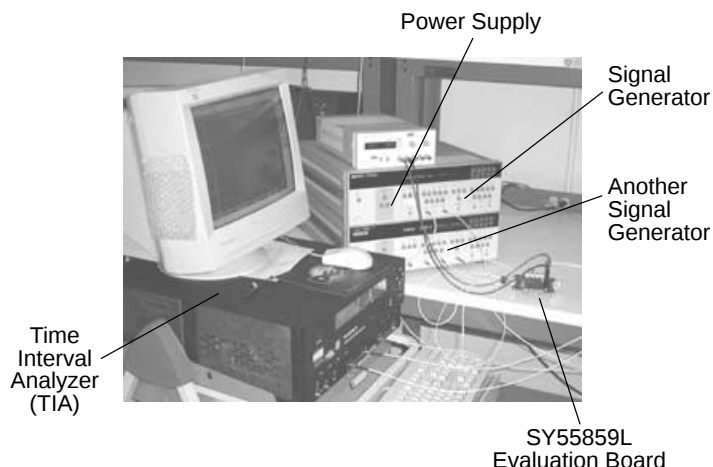
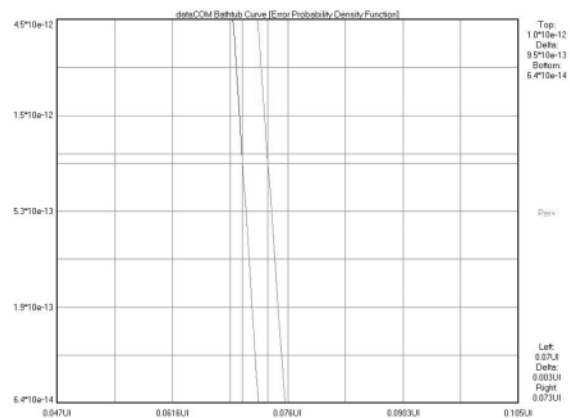

Figure 5. Assessing Crosstalk
Figure 6. TIA Crosstalk Bathtub Curves
This section describes how to measure crosstalk using the SY55859L evaluation board. An example bench setup is shown in Figure 5. Of the various methods to obtain crosstalk, this document describes use of a Wavecrest DTS-2079 TIA. Other instruments, will, of course, require slightly different procedures, though the major steps are common. Following these instructions, you will be able to measure crosstalk, and obtain results like Figure 6.
Using one pair of length matched SMA cables, connect the differential output of the signal generator to J1, labeled “DA0,” and J5, labeled “/DA0.” In the setup shown in Figure 5, an Agilent 8133A signal source generates a 2³²–1 PRBS pattern.
8. *Use Data Source:* Set the data source to generate a K28.5 pattern, which is the 20-bit sequence “0011 1110 1011 0000 0101,” where the spaces are added for readability. The Agilent 8133A used in Figure 5 can only generate a 32-bit pattern. In this case, use “0011 1110 1011 1010 1100 0001 0100 0101,” where once again, spaces are added for readability.
Set one horizontal marker to the minimum, and set the other horizontal marker to the level 1×10^{-12} . Zoom in on the two bathtub curves near 0UI. Set the vertical markers to where each of the two bathtub curves cross the horizontal marker. You will get something like in Figure 6 below. The “Delta UI” is the amount that the eye is reduced by crosstalk from the other input to the crosspoint.